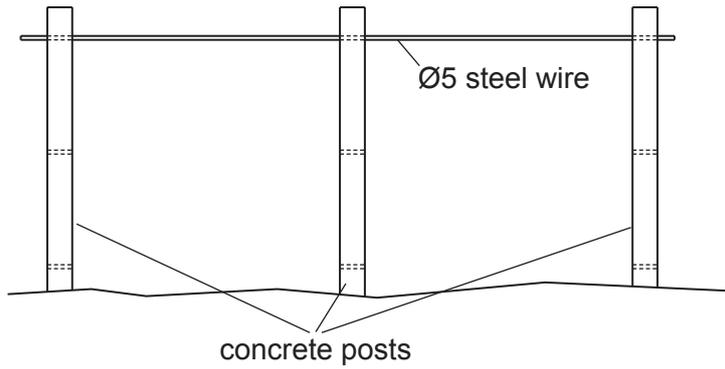

Fig. 10.6
- (c) Fig. 10.6 shows part of a fence structure made from steel wires, which will be held under tension. The top wire is shown in position before it is tensioned.